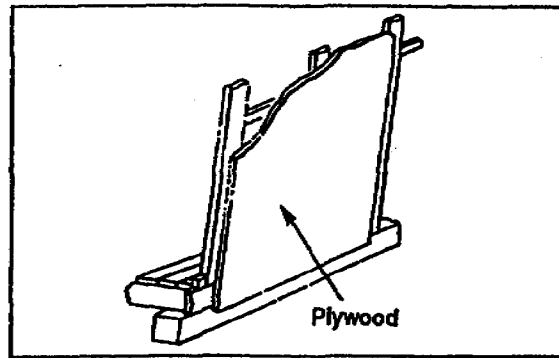

Figure 2-23. Plywood sheathing
c. Plywood. Plywood is highly recommended for wall sheathing because of its weight, strength, and structural properties. Plywood is most commonly used because it adds a lot more strength to the frame than using diagonally applied wood boards. It comes in 4-foot-wide and 5- to 8-foot-long sheets, 1/4 to 3/4-inch thick. Install the sheets with the face grain parallel to the studs (see Figure 2-23, page 2-16). It is usually applied vertically from the floor to the ceiling. When plywood is correctly applied (with flush joints), the joints do not need to be concealed. However, to improve wall appearance, joints may be covered with moldings. These may be battens fastened over the joints or applied as *splines* between the panels. Less-expensive plywood can be covered with paint or covered in the same way as plastered surfaces. Figure 2-24, page 2-16, shows how to fit plywood on rough or uneven walls.